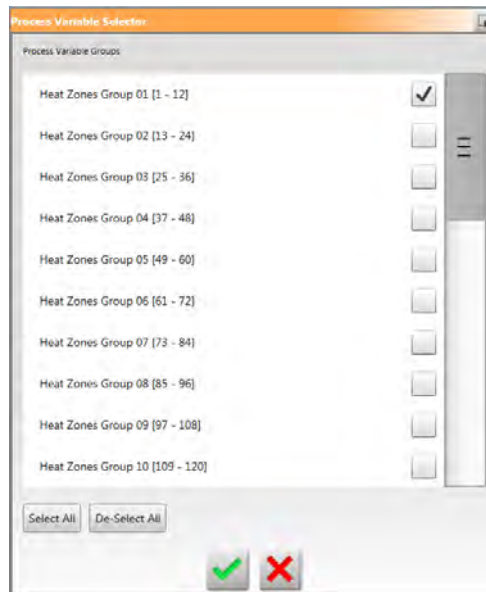

Figure 11-8 Process Variable Selector Dialog
2. On the Process Variable Selector dialog, touch a checkbox next to the variables you want to see. Refer to Figure 11-8.